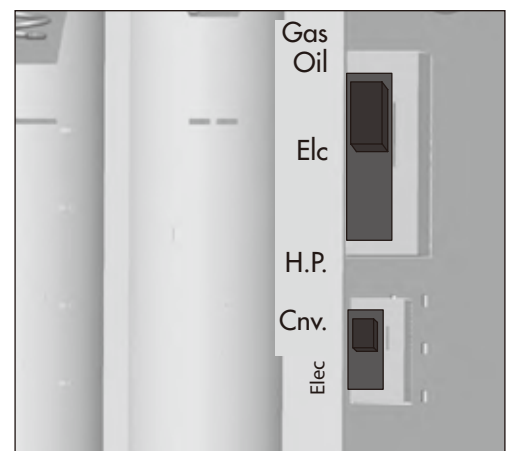

Figure 10.
9. Set the system switch to "Cnv" if you have a conventional HVAC system or "H.P." if you have a heat pump system. Set the furnace type to "Elec" if you have an electric convention system or a heat pump. "Gas/Oil" will be used if you have gas or oil based conventional system. Figure 10.
10. Lay the ribbon across the battery compartment and install 2 (AA) Batteries into the back of the thermostat over it, Figure 10., and snap the thermostat on to the mounting plate. Refer to "Setup" on page 10 of your owner's manual to continue setup, scheduling, and daily use.